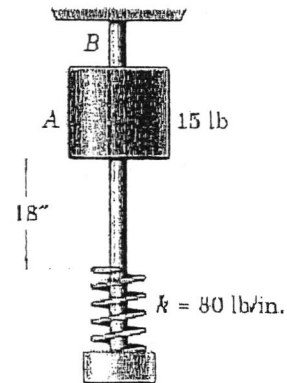

Fig. Q.9
9. The 15 lb cylindrical collar is released from rest in the position as shown in Fig Q.9 and drops onto the spring. Calculate the velocity of the v of the cylinder when the spring has been compressed by 2 inch. 11